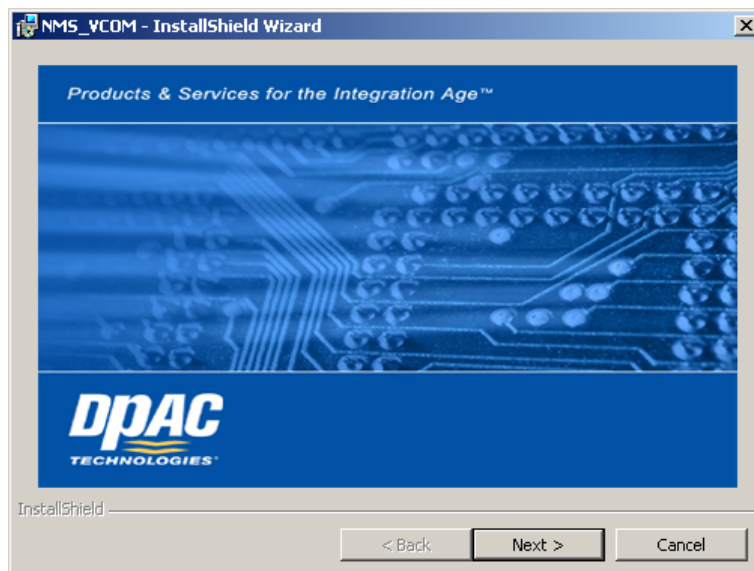

Figure 29. Initial Screen
- Double-click the file `nms_vcom_setup.exe`. The InstallShield Wizard starts and the initial screen in Figure 29 appears.